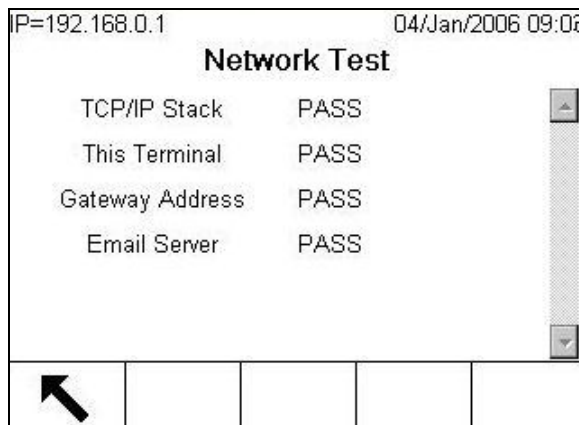

Figure 3-27: Network Test Screen
- Network Test—Enables testing of the Ethernet programming/hardware/firmware in the terminal. Figure 3-27 shows the result of running a network test.